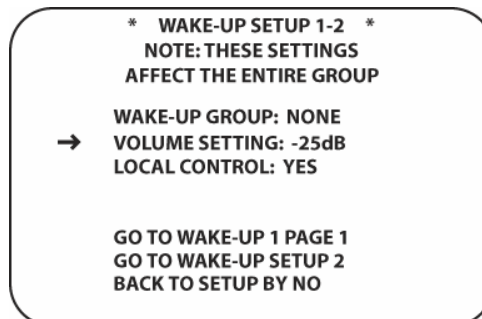

Figure 115 Wake-Up Setup 1-2
3. To continue Setup, press the ▼/▲ **Navigation Button [oval 16]** to position the cursor next to GO TO WAKE-UP 1 PAGE 2. Press the **Set Button [oval 18]**. The WAKE-UP SETUP 1-2 screen will appear. (**Figure 115**)